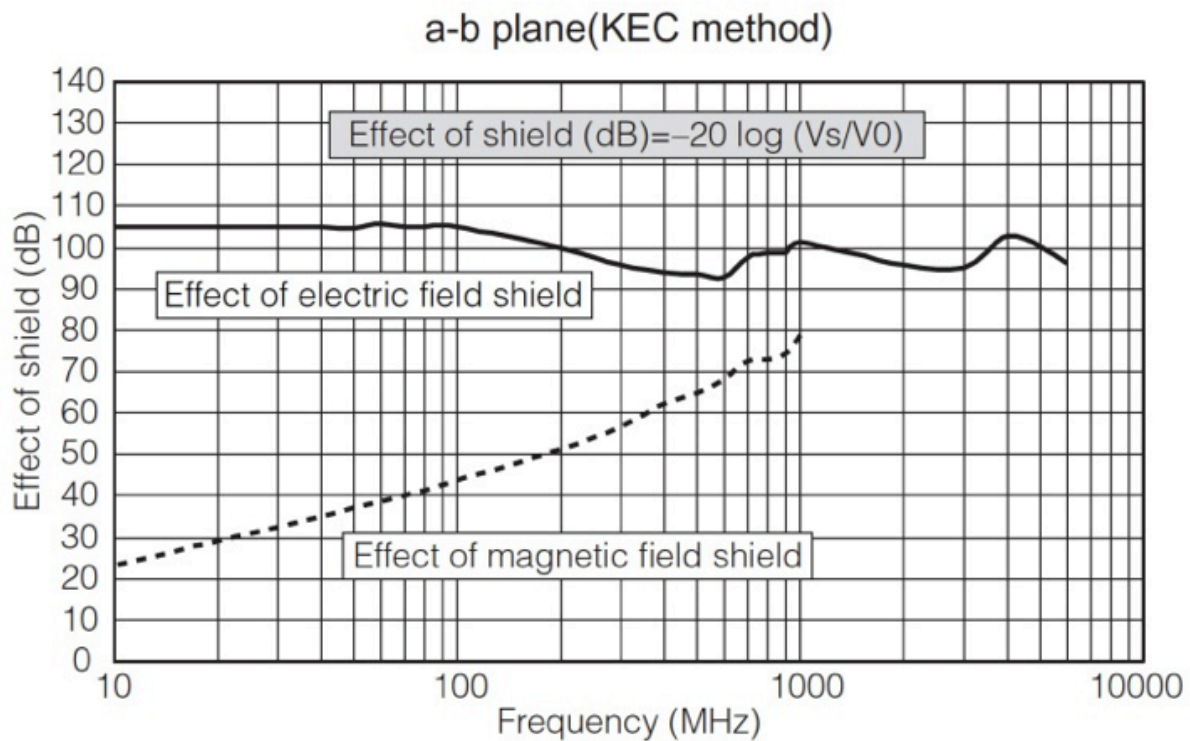

Fig 3.
- PGS can provide some shielding to electromagnetic noise, providing a simultaneous EMI and thermal solution (see **figure 3**).